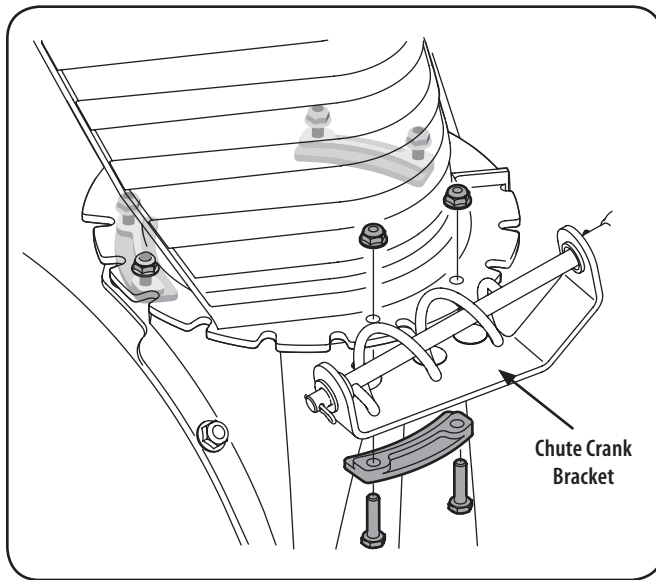

Figure 3-3
1. Loosen, but do not remove, the chute crank bracket in order to attach the chute assembly. See Fig. 3-3.
2. Remove lock nuts and screws securing one of the flange keepers to the chute assembly. Loosen the fasteners of the other two flange keepers. See Figure 3-3.
4. Secure flange keeper removed earlier with lock nuts and screws. Tighten down nuts securing the other two flange keepers. See Figure 3-3.